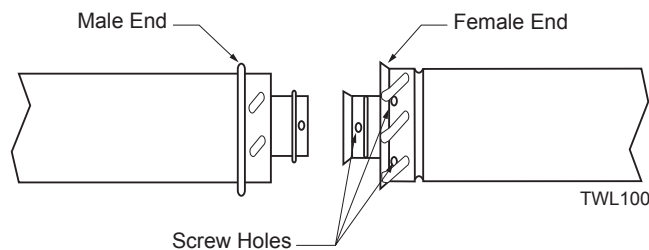

Figure 14 -
To join twist lock pipes together, simply align the beads of the male end with the grooves of the female end, twisting the pipe until the flange on the female end contacts external flange on the male end. It is recommended that you secure the joints with three (3) sheet metal screws, however, this is not mandatory with twist lock pipe. *Figure 14* To make it easier to assembly the joints, we suggest putting a lubricant (Vaseline or similar) on the male end of the twist lock pipe prior to assembly.